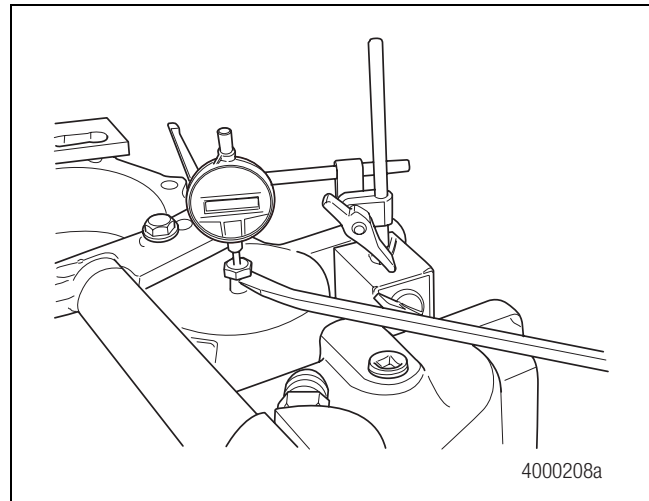

Figure 6.23
6. Set up the dial indicator to check the idler shaft bearing end play. Center the dial indicator on the bolt head. Zero the indicator. Figure 6.23.